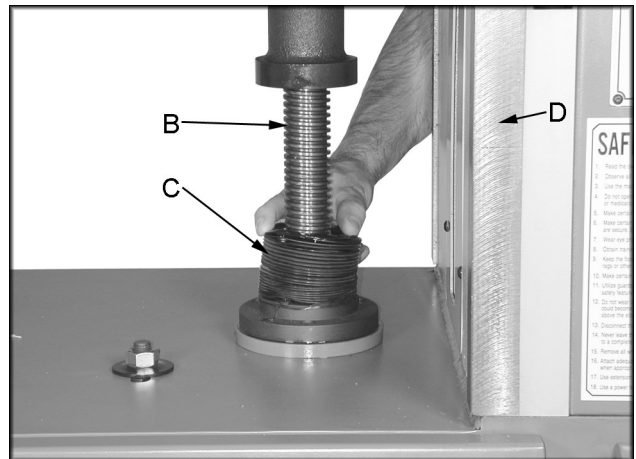

Figure 26
- Lubricate the two table elevation screws (B, Figure 26) as needed. Raise the table and remove the two screws holding the top of the accordion cover (C, Figure 26) in place. Pull the cover down and lightly grease the elevating screws, see Figure 26.
- Use an oiled cloth to wipe the ways (D, Figure 26) weekly.